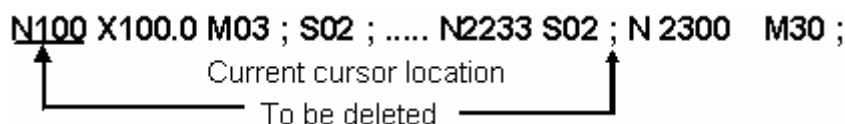

Fig. 10-1-1-7
- a) Enter the program edit page(as Fig.10-1-1);